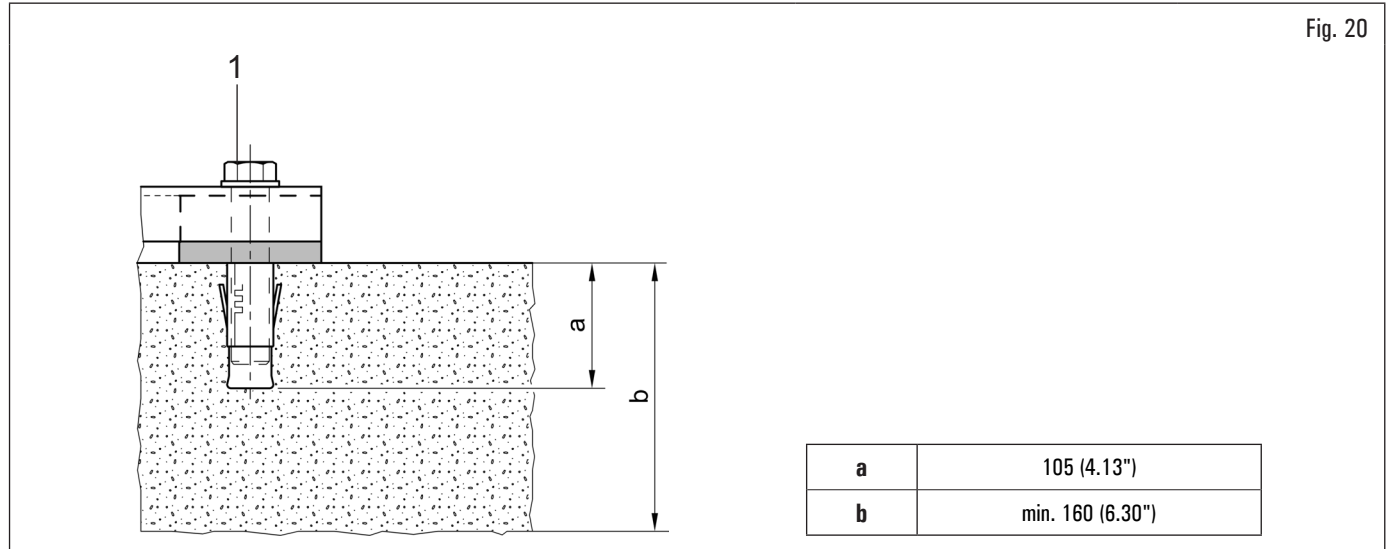

Fig. 20
The packed equipment is secured to the support pallet through the holes on the frame and indicated in Fig. 20. These holes can be used to secure the equipment to the floor, using suitable concrete anchors (not included). Before concrete anchoring to floor, check that all the anchor points are flat, or level in contact with the floor. If not, shim between the equipment and the floor, as indicated in Fig. 20.
- To secure the equipment to the floor, use anchoring bolts/studs (Fig. 20 ref. 1) with a threaded shank M8 (UNC 5/16) suitable for the floor on which the tyre changer will be secured and in a number equal to the number of mounting holes on the bottom frame;